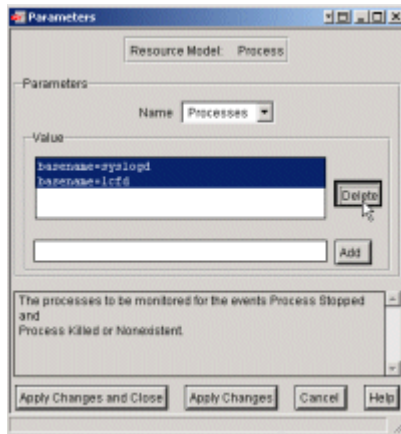

Figure 9-84 Deleting default parameters from Process resource model
5. Shift select both entries (**syslogd** and **lcfid**) in the Value list, and then select **Delete** as shown in Figure 9-84.